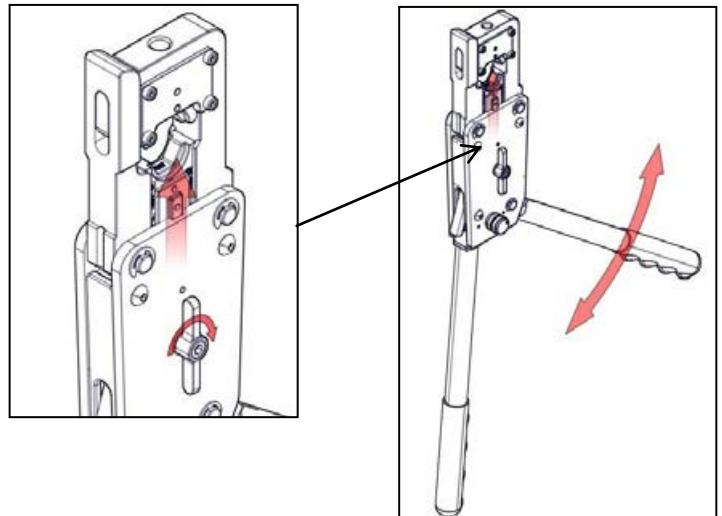

Figure 3. Operation confirm
(2) Repeatedly swing the moveable handle to ensure working smoothly. See Figure 3